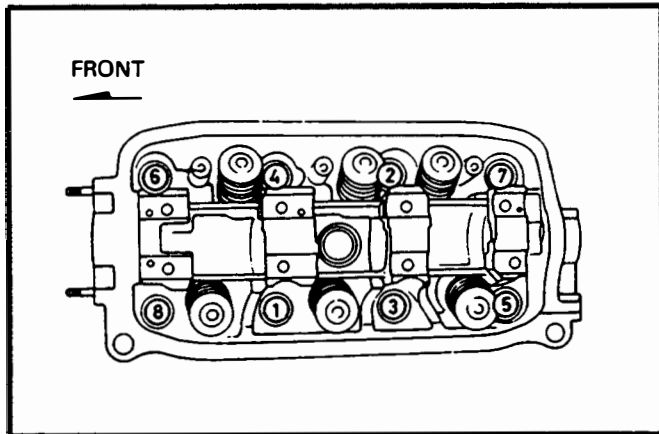

Figure 49.
8. Install the cylinder head. Apply a light coating of engine oil on the bolt threads and under the bolt heads. Tighten the cylinder head bolts in the sequence as indicated in Figure 49. evenly and progressively in 2 or 3 steps.